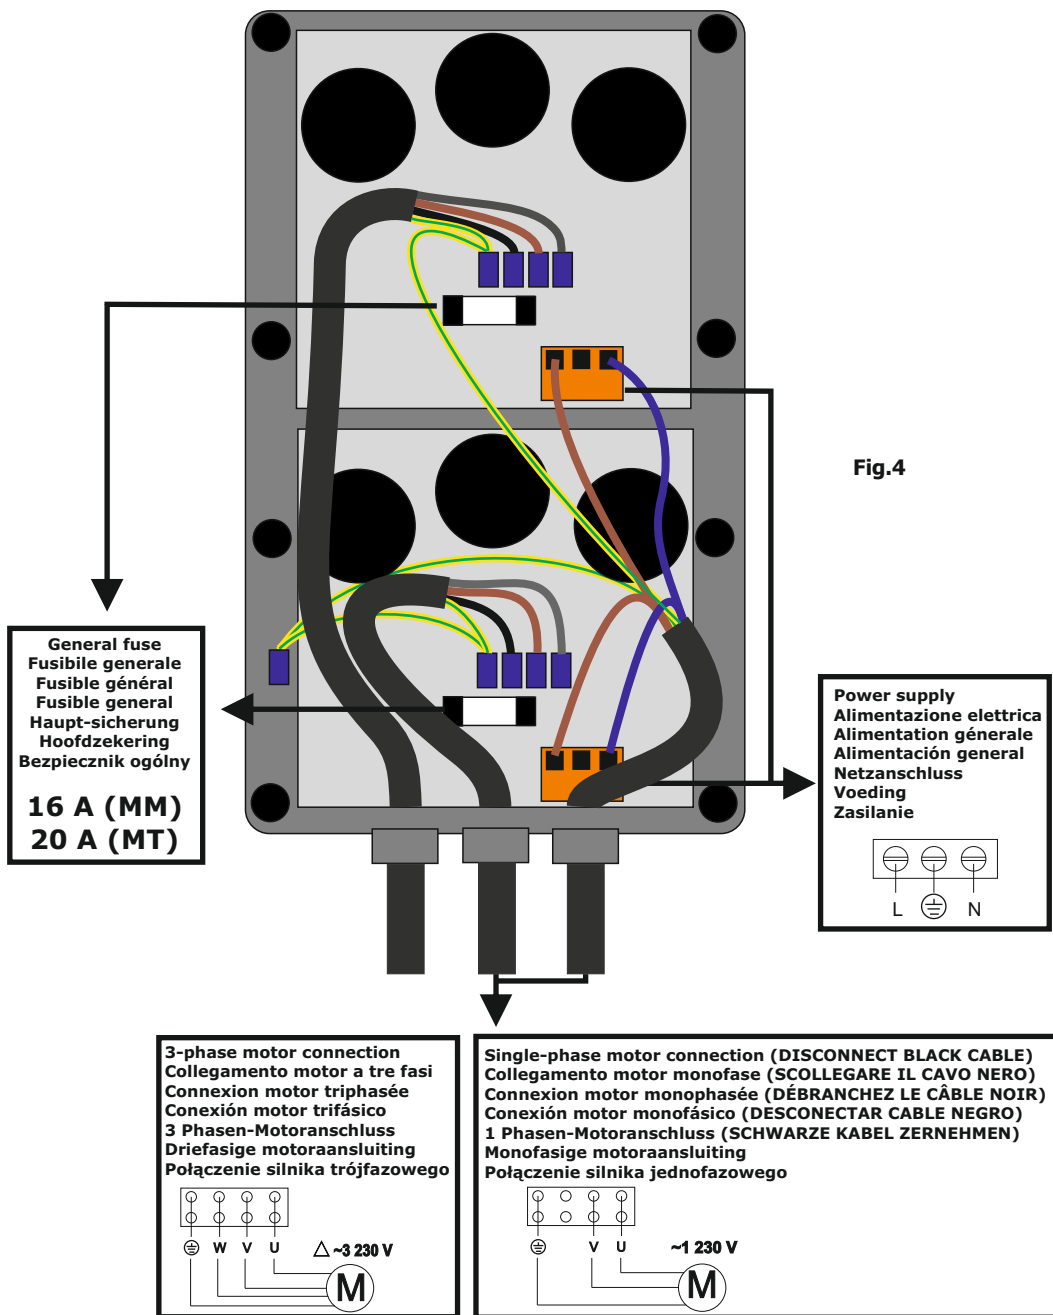

Fig.4
- Do the pump connection (fig. 4).